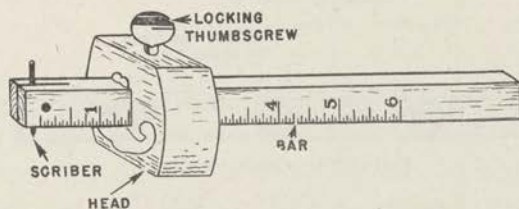

FIGURE 16.—Marking gage.
g. Marking gage (fig. 16).—Usually made of boxwood or beech and consists of a graduated bar, a head with a locking thumbscrew, and a